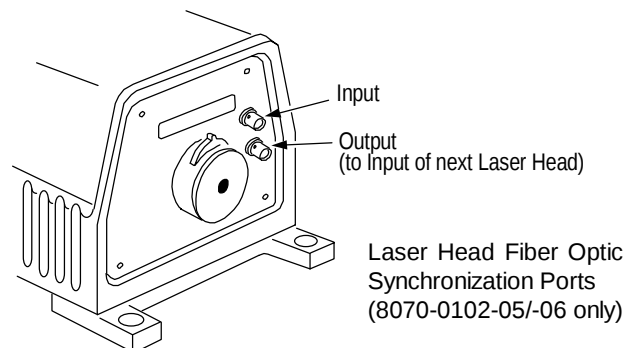

Figure 2-4 Laser Head Sync Ports
7. *This step only applies to 8020-0102-05/-06 Laser Heads.* To synchronize the reference output of multiple Laser Heads, connect the fiber optic output (on the front panel) of one Laser Head to the fiber optic input on the other Laser Head. Standard Zygo fiber optic cable (P/N 8020-0410-XX) may be used. The fiber optic reference signal on the back panel from the transmitting Laser Head should be used to provide the reference signal to the Measurement boards. See Figures 2-4 and 2-5.